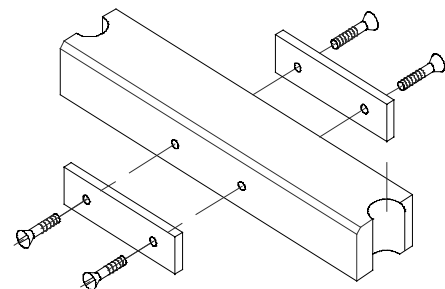

Figure 14.
2. If the valve is equipped with opening tags, loosen the fixing screws (8 pcs) at the pinch bars and pull out the opening tags (Figure 14.).
2. Open the screws (7.) between the valve body halves and detach the lower part of the body. If the valve has opening tags, detach them (17.) from upper (3.) and lower pinch bars (4.), 8 pcs screws (Figure 14).